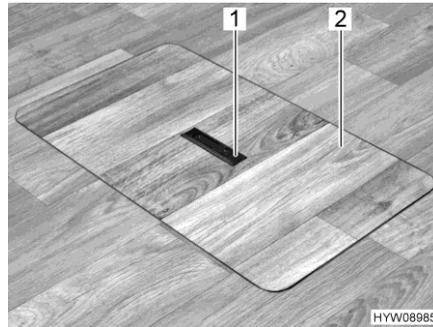
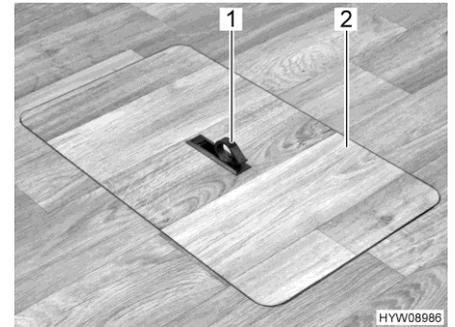

Fig. 51 Floor storage compartment cover (handle recessed)
Fig. 52 Floor storage compartment cover (handle swung out)
- Push one side of the grip plate (Fig. 51,1) downwards. The handle (Fig. 52,1) swivels upwards.
- Remove the cover (Fig. 52,2) upwards.
- Insert the cover (Fig. 52,2) in the frame on the floor.